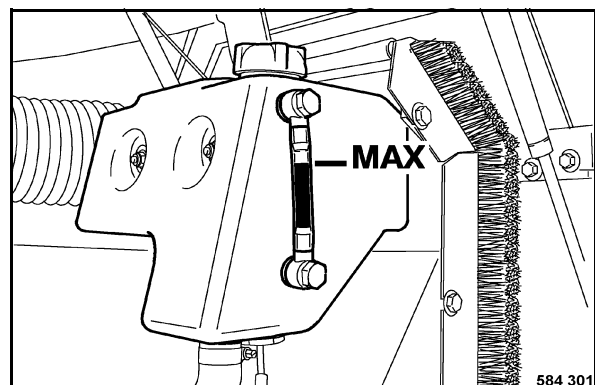

Fig. 176
- Unscrew the cover (Fig. 176) from the compensation tank.